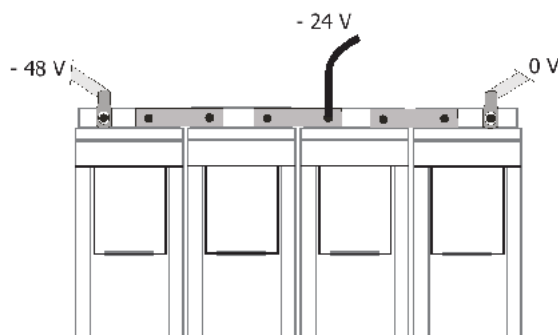

Figure 4-18 2-block Symmetry Measurement (for illustration only)
2. For 2-block battery symmetry measurement fix one wire of the symmetry cable to the cable lug in the mid-point of the battery string, see Figure 4-18.